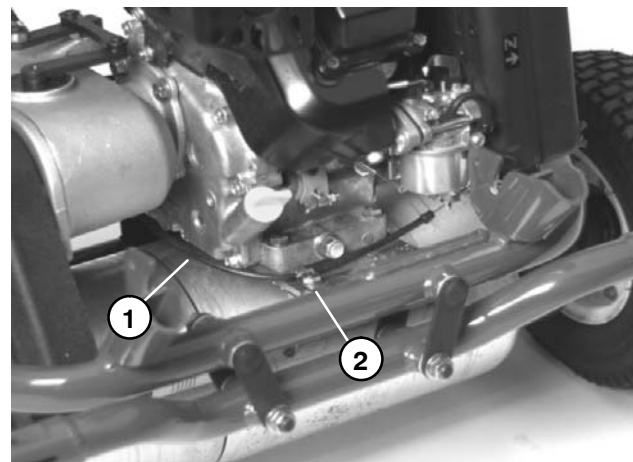

Figure 12
- B. Remove cap screw and flange nut that locate cable clamp to traction unit frame (Fig. 12).